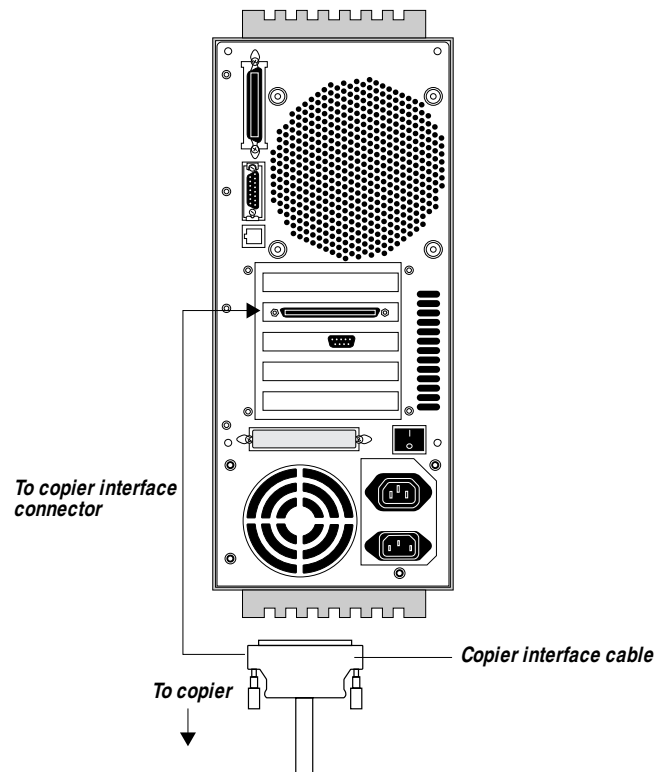

Figure 3-4 Copier interface cable connection
6. **Connect the other end of the cable to the Fiery XJ-R/R2 copier interface connector (see Figure 3-4).**